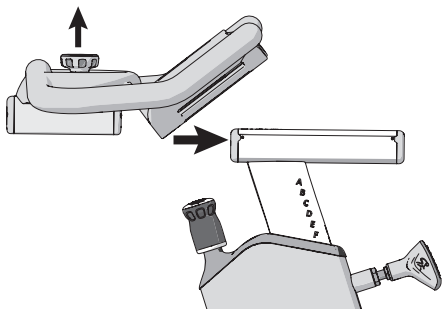

Figure 9
1. Slide the handlebar assembly onto the handlebar post (Figure 9) by loosening the fore/aft handlebar knob and pulling it up to align with the grooves on the handlebar post.